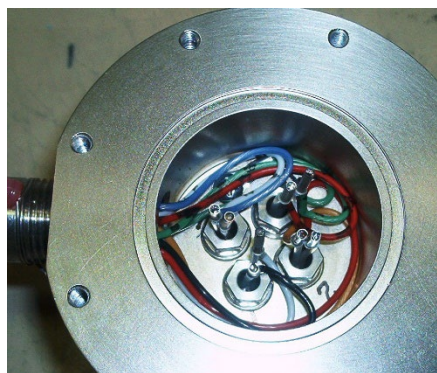

Fig. 7.5. Filament Wiring Location
22. Route wires as shown in Figure 7.5 and solder to filament leads using a 40 watt soldering iron.